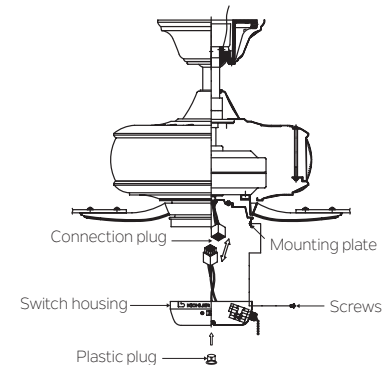

Fig. 19
Step 1. Raise the switch housing close to the ceiling fan and connect the square wire connectors from the switch housing and fan. Install the switch housing to the mounting plate with screws provided. (Fig. 19)
Step 2. Attach the plastic plug to the switch housing. (Fig. 19)